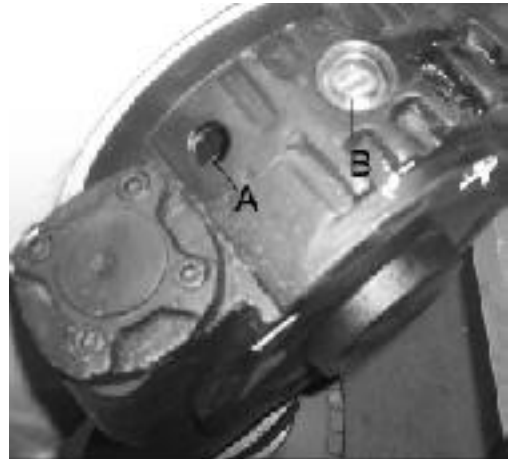

Fig.25
6. Remove oil breather nut (B) Fig.25.
7. Fill the gear box with oil through the oil hole (B) until the oil reach 1/3 volume in the oil window. Then replace oil breather nut (B).